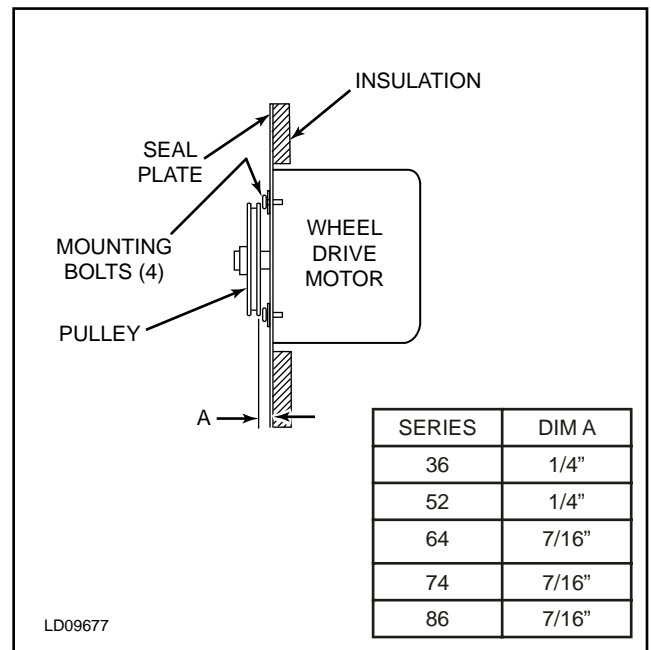

FIG. 5-110 – PULLEY LOCATION
See Fig. 5-110
4. While supporting weight of drive motor in one hand, loosen and remove four (4) mounting bolts.
6. Install pulley to dimension *shown in Fig. 5-110* and secure set screw to drive shaft.